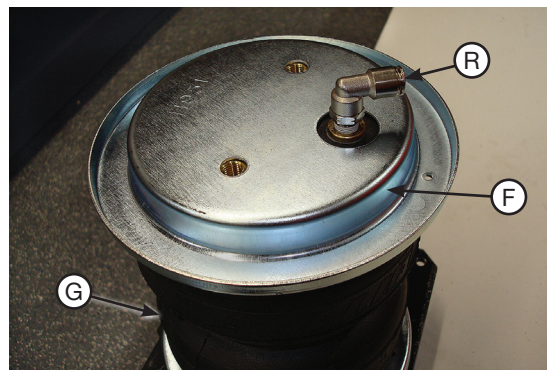

fig. D.6
1. Set a roll plate (F) on top of the air spring (G). The radiused, or rounded, edge of the roll plate should be toward the air spring so that it is seated inside the roll plate (Fig. D.6). Install the 90° swivel fitting (R) into the port on top of the air spring, finger tight plus 1 1/2 turns.